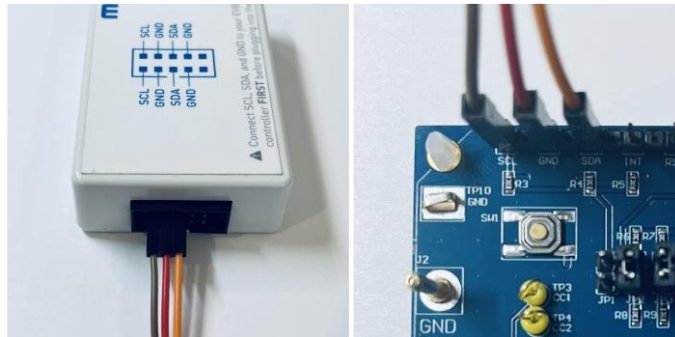

Figure 6: EVB to MPS I²C Communication Interface Wire Connection
2. Connect SCL, SDA, and GND (see Figure 6). Refer to the MP2722 datasheet for additional clarification.